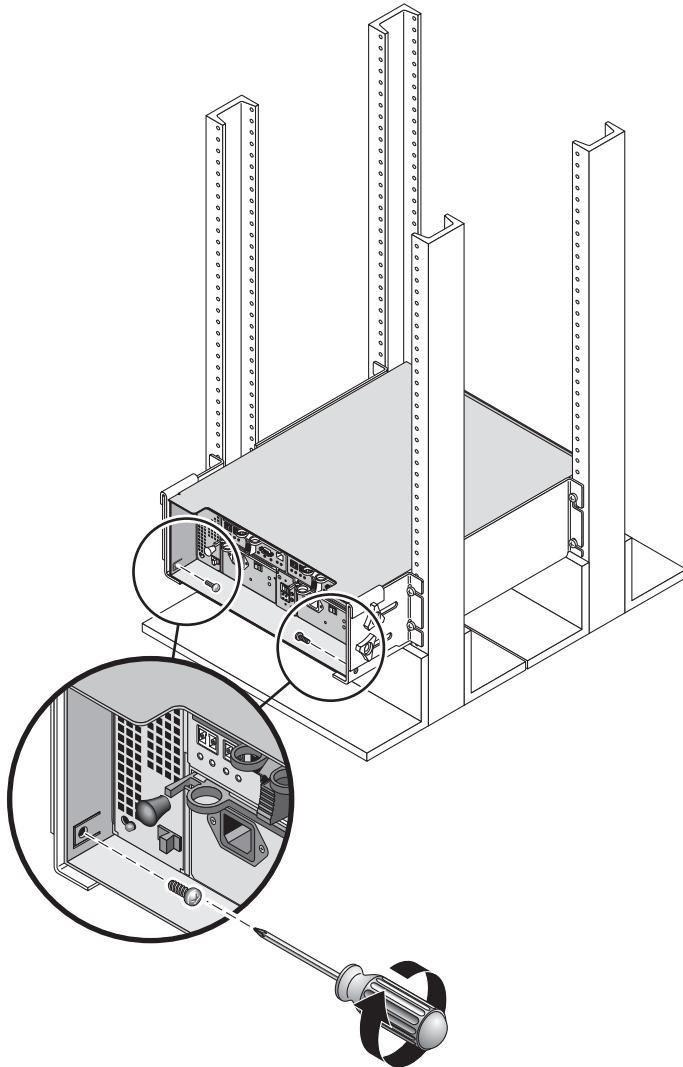

FIGURE 18 Securing the Array Module to the Back of the Telco 4-Post Rack
6. At the back of the array module, use the #2 Phillips screwdriver to install and tighten two 8-32 screws (one per side) through the rear mounting points (FIGURE 18).